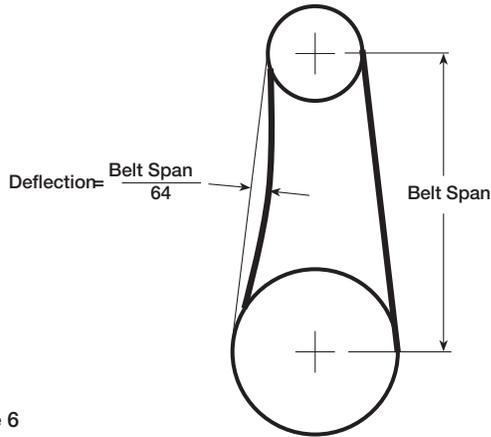

Figure 6
9. Belt tension should be adjusted to allow $\frac{1}{64}$ in. (0.397 mm) of deflection per inch of belt span. For example, a 15 in. (381 mm) belt span should have $\frac{15}{64}$ in. (0.234 mm) (or about $\frac{1}{4}$ in. (6 mm)) of deflection with moderate thumb pressure at mid-point between pulleys, see Figure 6.